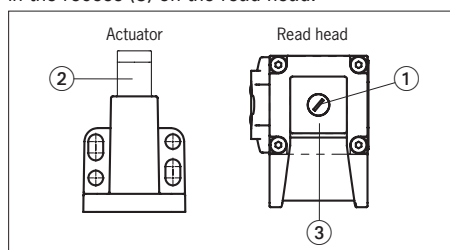

Figure 1: Read head and actuator
In the read head there is a lift tappet (1) that contains the transponder (see Figure 1). The actuator has a spring-mounted guard locking pin (2) in which there is a CES actuator. The guard locking is active if the lift tappet is retracted and the guard locking pin is in the recess (3) on the read head.